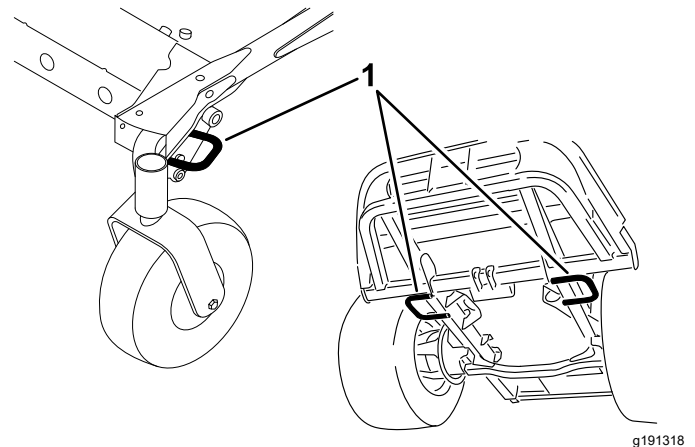

Figure 62
5. Use the tie-down loops on the machine to securely fasten it to the trailer or truck with straps, chains, cable, or ropes (Figure 62).